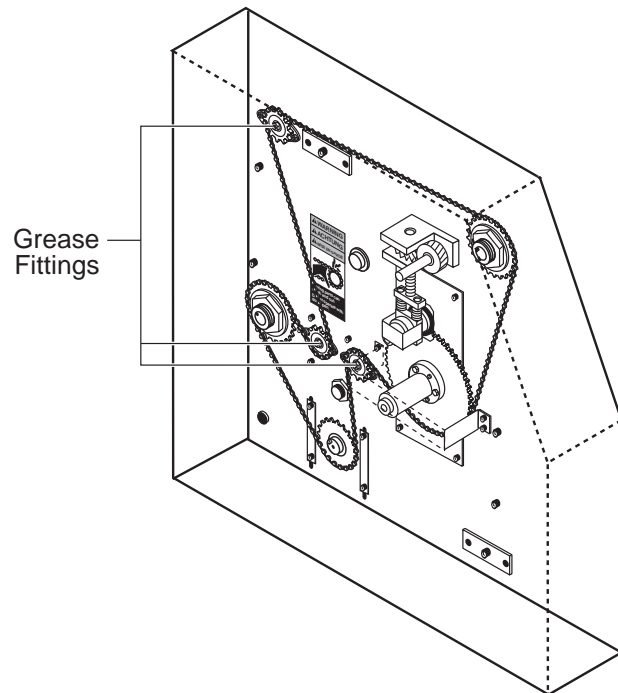

Figure 4-5: Grease Fittings
2. Using the grease gun, lubricate each grease fitting (shown in Figure 4-5) with one squirt of high temperature grease.